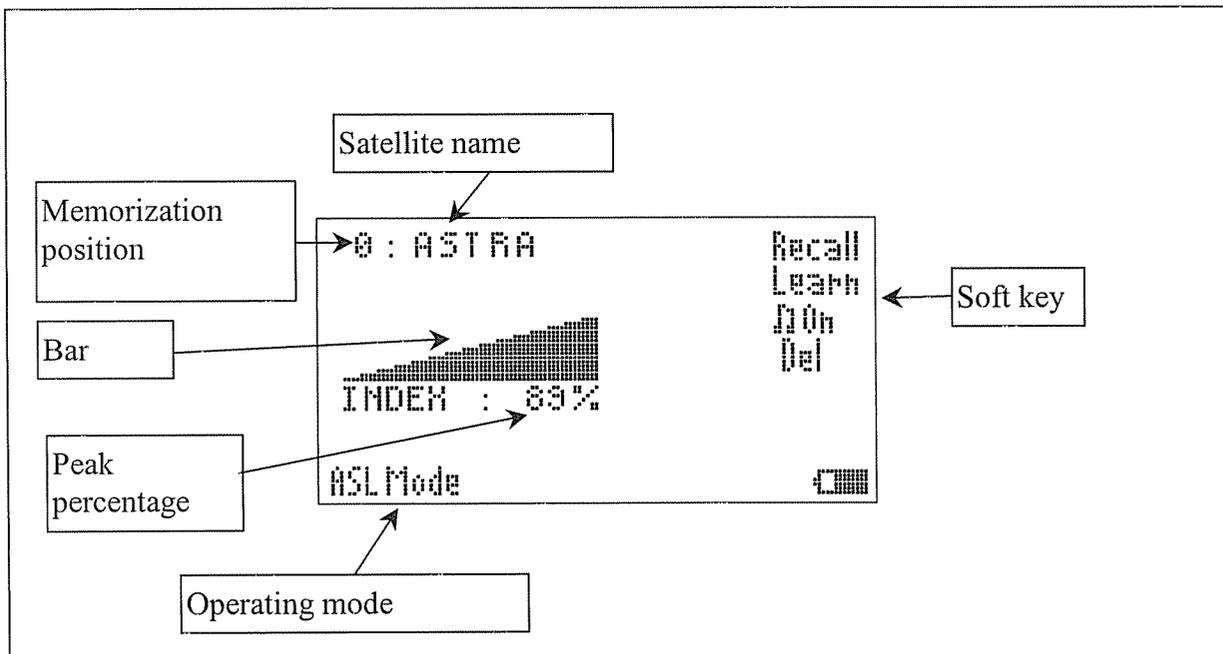

Figure 7 ASL screen
- Press **SOFT KEY (6)** and select **Save** by means of Shaft Encoder. Press **↵ ENTER (7)** to confirm.
- Rotate Shaft Encoder to select the position where to save. Press **↵ ENTER (7)**.
- Press **↵ ENTER (7)** again.
- To go back to the screen in Figure 7, press **SOFT KEY (6)** and select **Back** by means of Shaft Encoder. Press **↵ ENTER (7)** to confirm.